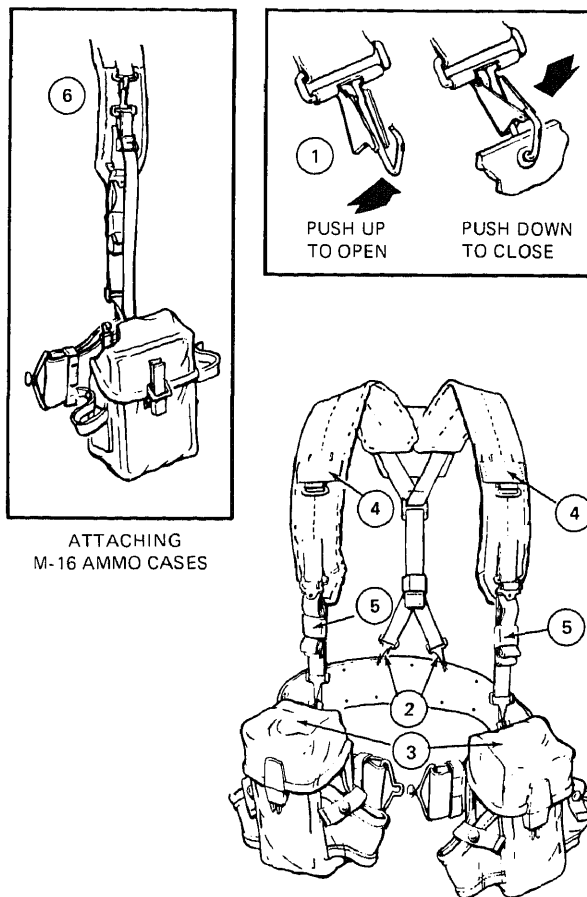

Figure 2-5.—Attaching the suspenders to the ammo pouch and pistol belt.
2. Ammunition Pouches (item 2 of fig. 2-2). Each small arms ammunition pouch is 4 1/4 inches wide, 6 1/4 inches high, and 2 1/2 inches deep. Plastic stiffeners are provided in the back of each pouch so that clips of ammunition can be easily inserted and removed. There are two attaching clips and supporting straps on the back of the pouch so that they can be fastened to the pistol belt and to the suspenders. (See fig. 2-5.)
The following six steps in attaching the suspenders to the ammunition pouch and belt correspond to the six actions depicted in Figure 2-5.